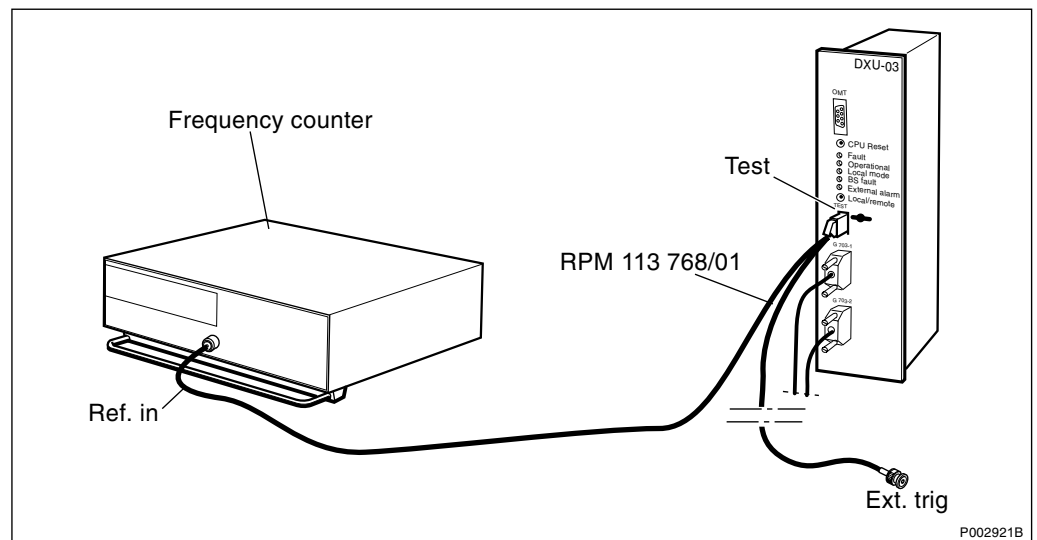

Figure 116 Connection of the frequency counter to DXU-03
1. Connect the frequency counter input A to the Test connector on the DXU-03, see Figure 116 on page 225.